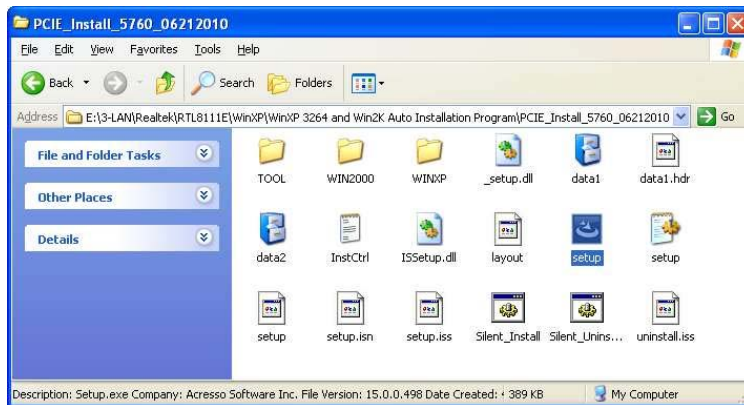

Figure 7-15: Locate the Setup Icon
Step 5: Double-click the **SETUP** icon to start the installation process (Figure 7-15).